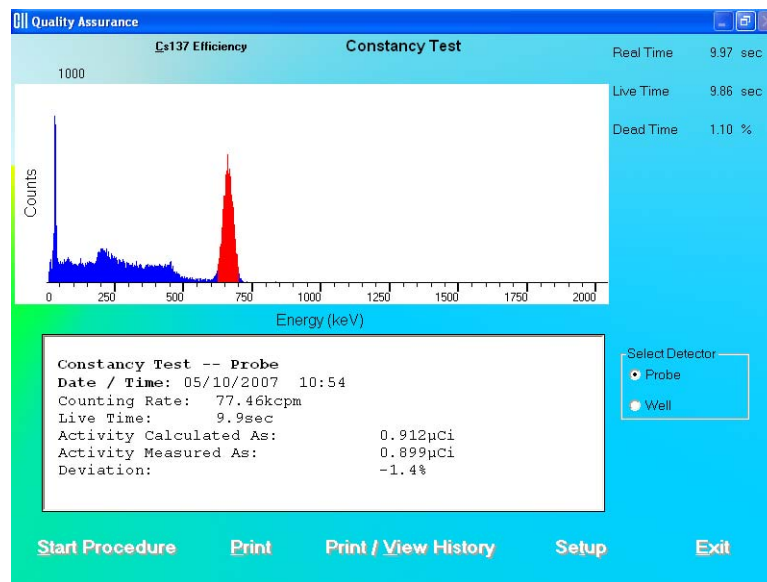

Figure 5-10
15. After the test is completed, the results of the test appear in the box below as shown in Figure 5-10. Note the Deviation value at the bottom.